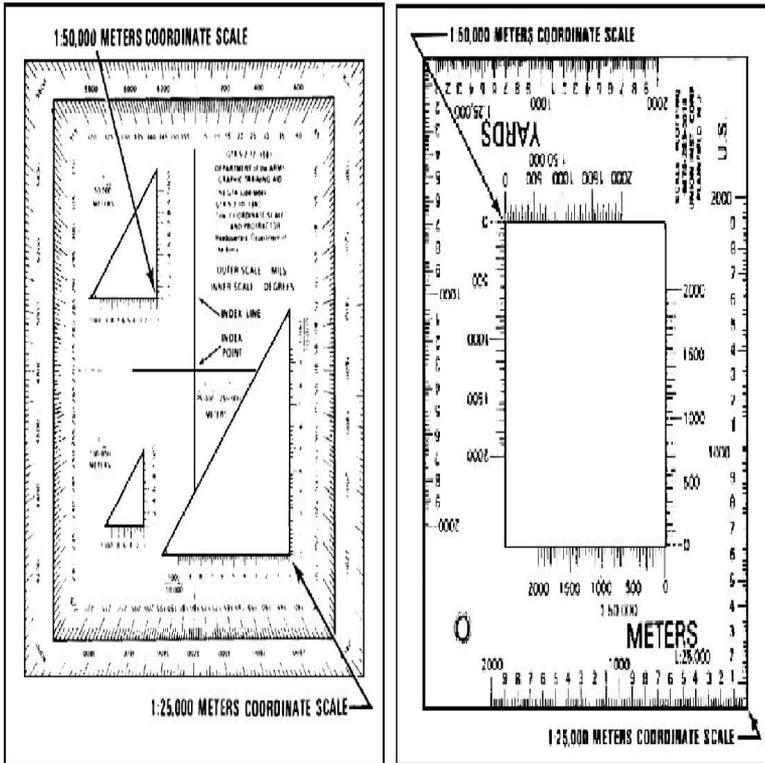

Figure 071-COM-1002-3. GTA 05-02-012 Coordinate Scale and Protractor (Left) and Plotting scale (Right).
a. Locate the grid square where the point is located (Example: Point A in Figure 071-COM-1002-4).